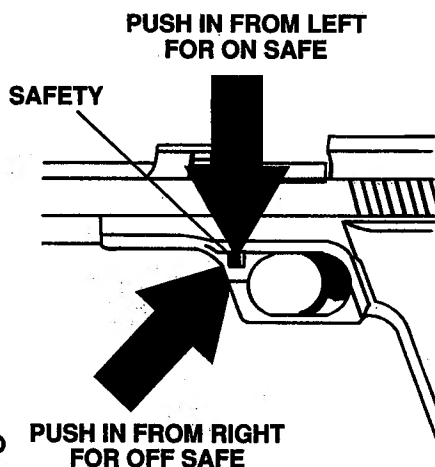

FIG. 1
A. To put the air pistol on safe, locate the safety directly in front of the trigger. Push the safety from the left side all the way in. (Fig. 1). The safety is not on unless it is pushed all the way in and the orange line around the safety is not showing. The air pistol will not fire when on safe.